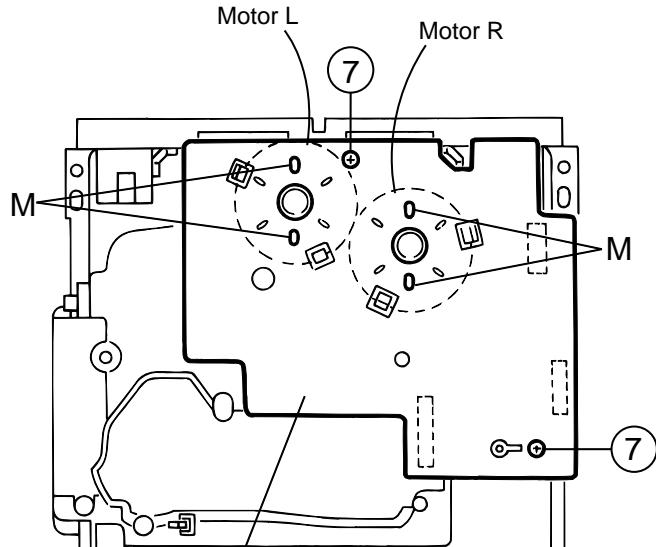

Fig.14
## ■ Removing the actuator motor board (See Fig.14, 15)
- Absorb the four soldered positions "M" of the right and left motors with a soldering absorber (See Fig.14).
- Remove the two screws 7 retaining the actuator motor board (See Fig.14).